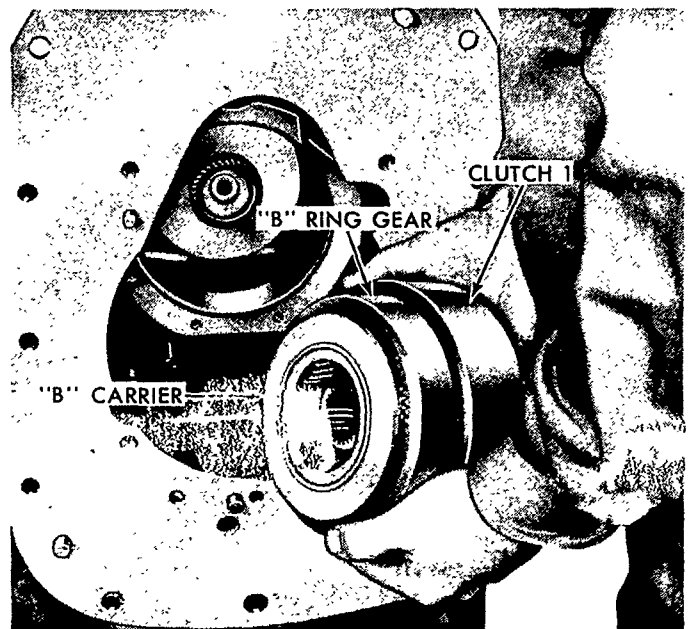

Figure 74
14. Remove the clutch 1, "B" ring gear, and "B" carrier as an assembly, as shown in Figure 74.